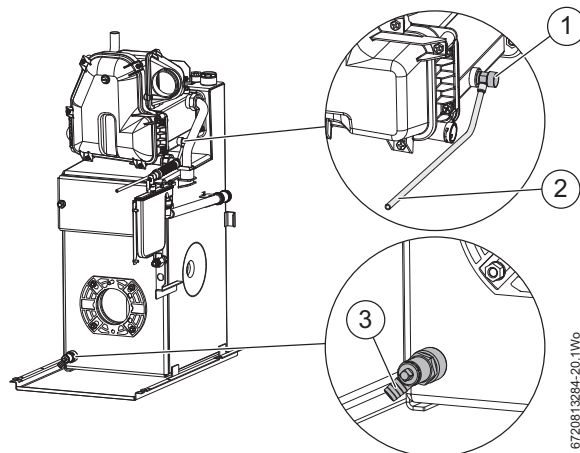

Fig. 5 Appliance drain points
- See figure 5 for appliance drain points.